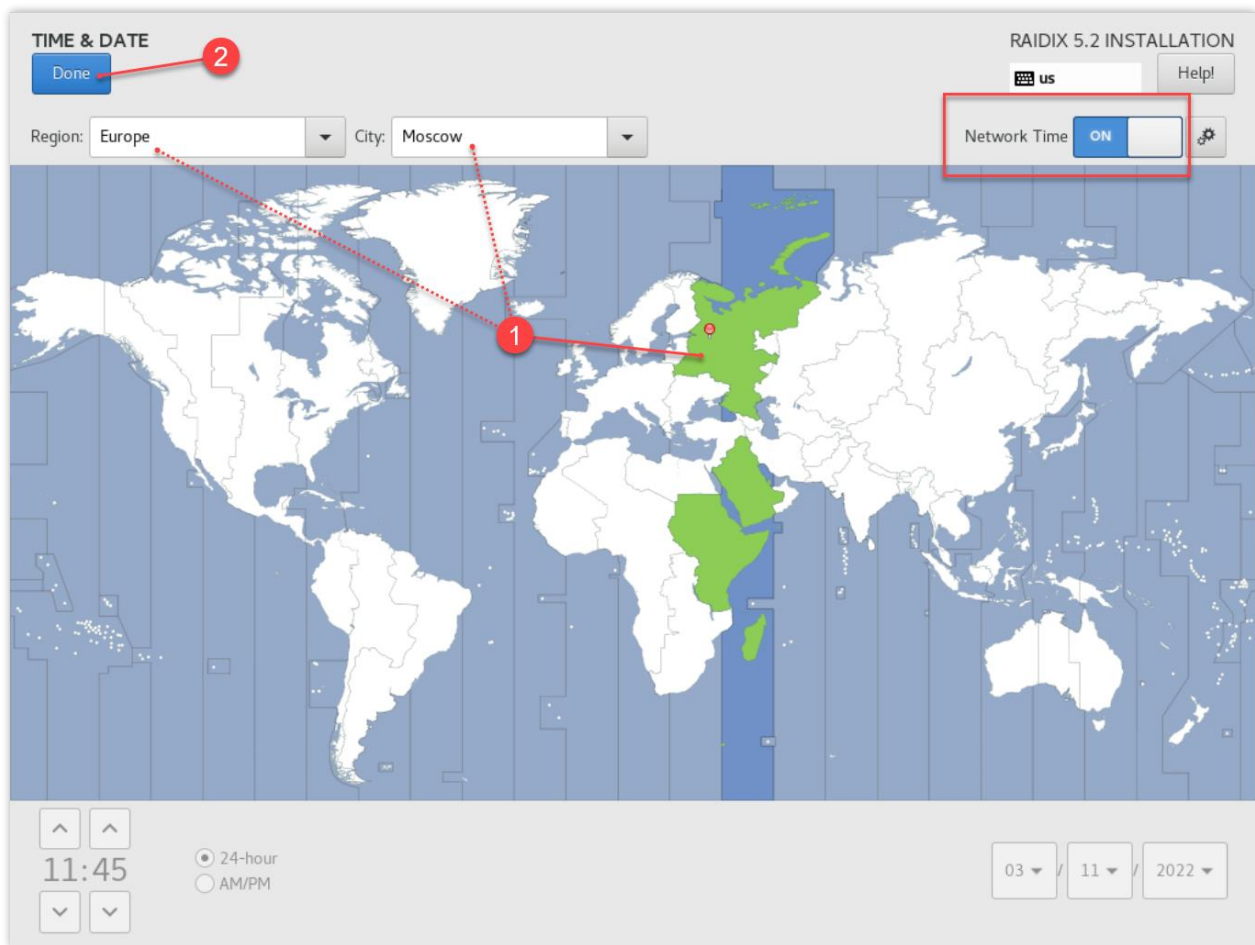

Figure 5. Date & Time page
3. Make sure the **Network time** option is on (Figure 5).